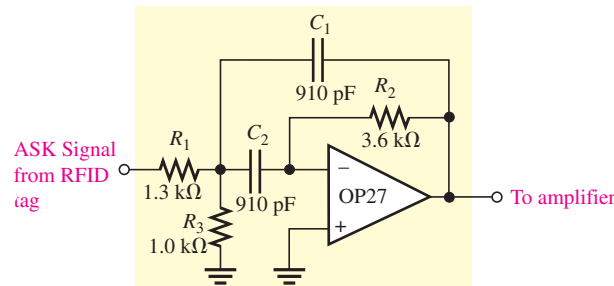

FIGURE SE9-6 Band-pass filter for RFID reader
Recall that the band-pass filter passes the 123 kHz signal and therefore reduces signals and noise that are outside this band. Our focus in this example is the band-pass filter in the first block of the system. The schematic for the band-pass filter is shown in Figure SE9-6. Component numbering for this schematic is taken from the overall receiver circuit, which is on the companion website as a Multisim file. The center frequency is
4. What is the gain of the BP filter in Figure SE9-6?